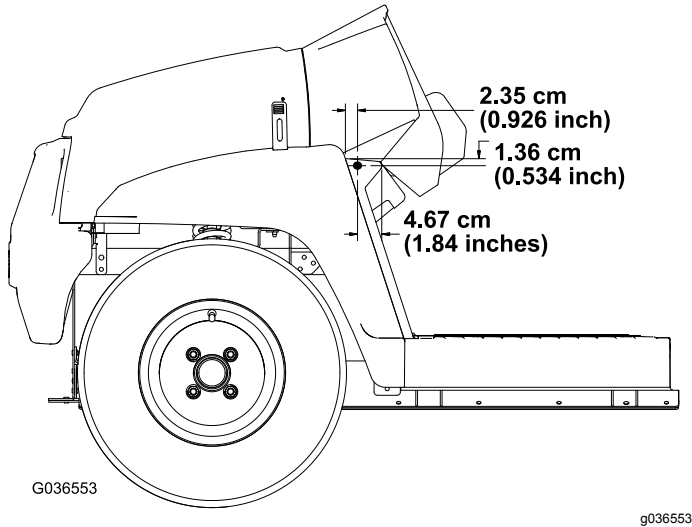

Figure 4
- Using the dimensions shown in Figure 4, drill 1 hole (5/16 inch) into the outside of the footboard on the left and right sides of the machine.